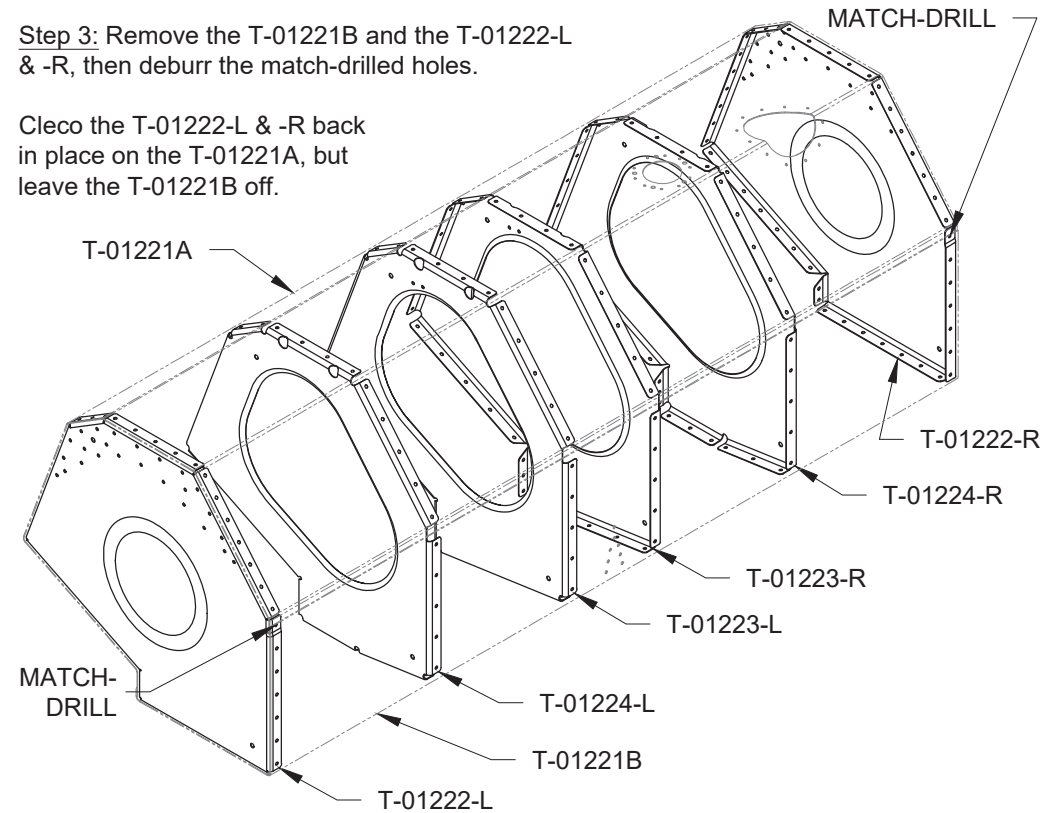

FIGURE 1: TANK SKINS AND RIBS
Step 2: Using a sharp drill bit and light force, match-drill #30 the indicated hole in both ends of the T-01221A & B into the T-01222-L & -R as called out in Figure 1.